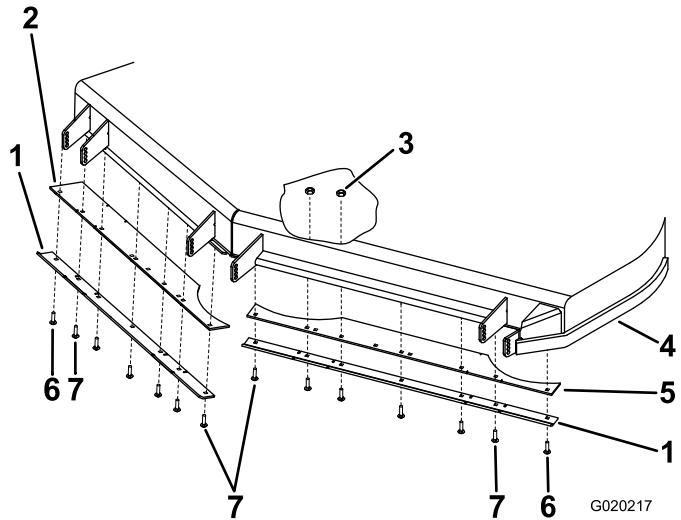

Figure 5
4. Position the trimmed baffle and skid skirt as shown in Figure 5.
5. Secure the baffle and skid skirt to the deck using six carriage bolts (5/16 x 1 inch) and six locknuts (5/16 inch) (Figure 5).
6. Install a carriage bolt (5/16 x 1-1/4 inches) at the outer most hole of the baffle (Figure 5).